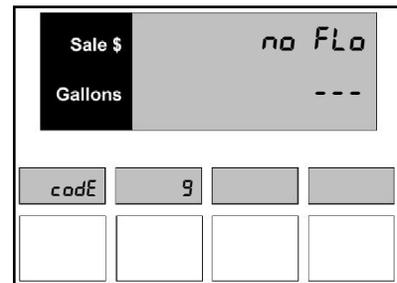

Figure 9.1 – Default No Flow Time Out
1. After the Menu Code has been accessed, press the **9** button and then the **Mode** button on the keypad. The main display on an un-programmed dispenser will appear as in *Figure 9.1*. This is the default. The PPV display shows the dispenser is in Menu Code 9.